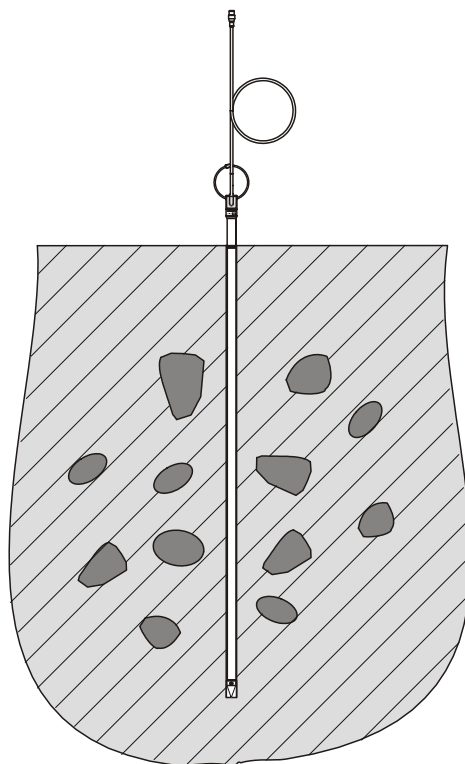

Figure 77 **Sensor Installation in Rocky Soils**
2. Insert the sensor into the hole and press it down as deep as possible by hand. Make sure that there are no sharp stones or other objects in the ground that could press the sensor. Refer to Figure 77 on page 89.
Make sure that there are no sharp stones or other objects in the ground that could press the sensor. Pressing objects can damage the fiberglass tube. Refer to Figure 77 on page 89.